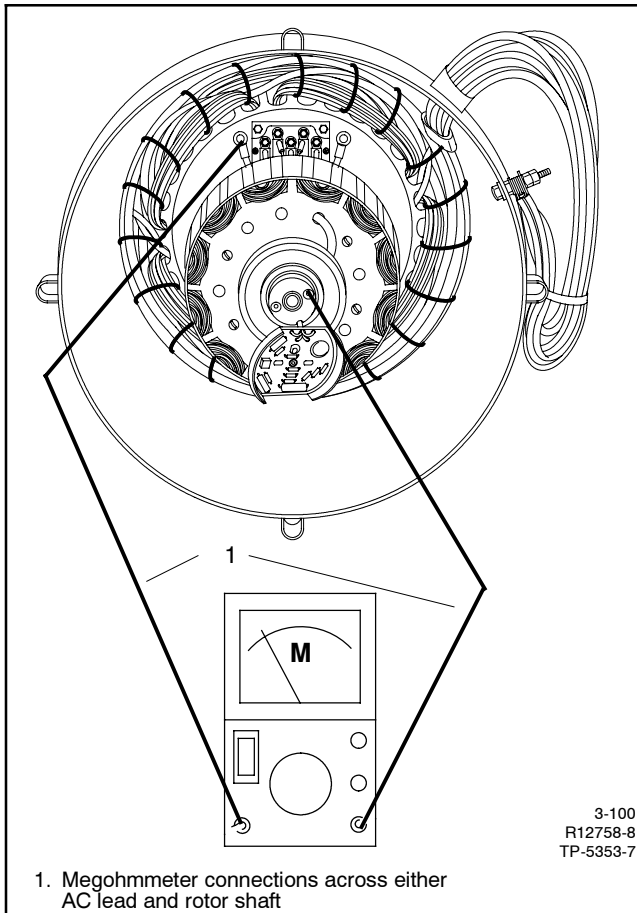

Figure 3-18 High Voltage Test
- Using a megohmmeter, apply 500 volts DC to the rotor shaft and either AC lead. See Figure 3-18. Follow the instructions of the megohmmeter manufacturer when performing this test. A reading of approximately 500 kOhms (1/2 megohm) and higher indicates the field winding is good. A reading of less than 500 kOhms (approximately) indicates deterioration of winding insulation and possible current flow to ground. Repair or replace the rotor.